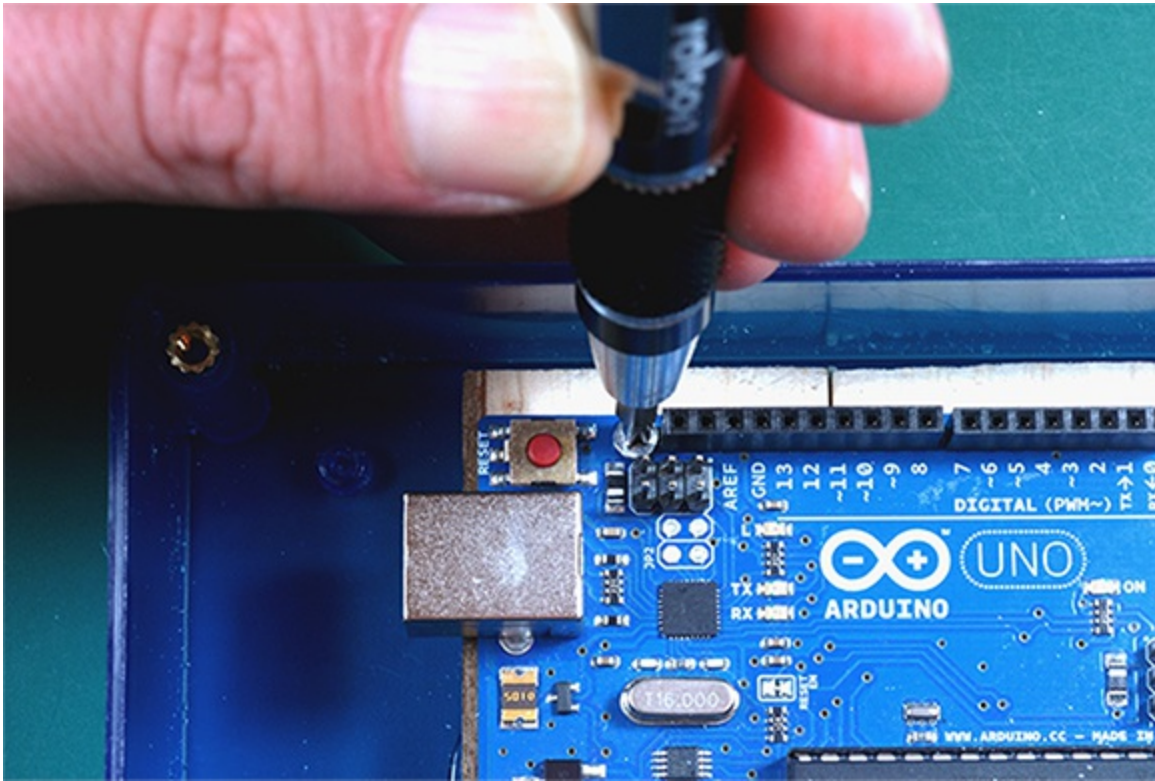

Figure 13-15: Soldering the power switch connections and installing your Arduino.
3. Separate your GPS shield from your Arduino and use three or four of your wood screws to secure your Arduino to the wood, as shown in Figure 13-15.